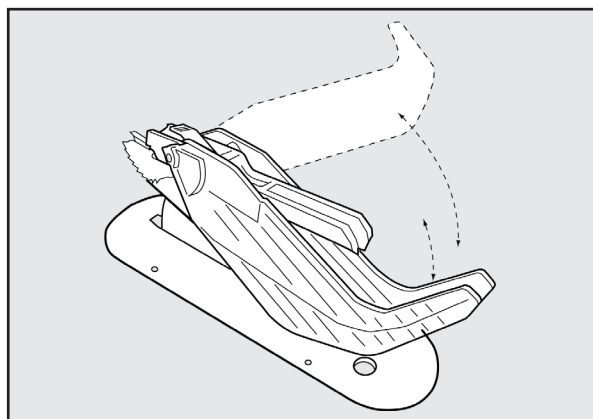

Figure 47
1. Refer to Figure 47 and, lifting the guard from the front, raise the guard shield until it snaps into a locked position above the table. One or both guard shields can be raised.